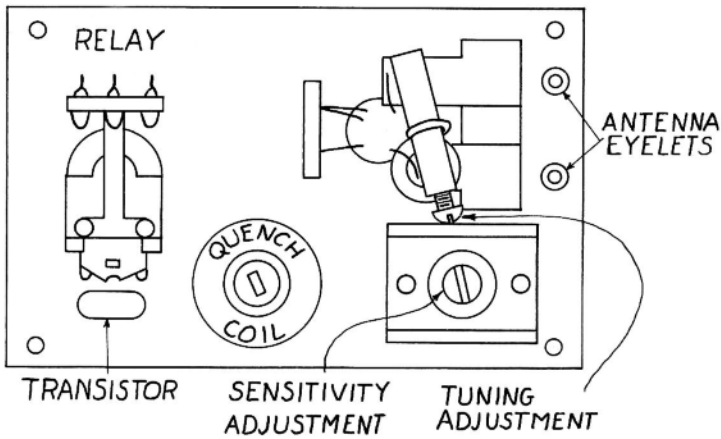

FIG. 1
- 6.1 After the previous complete factory testing and tuning of your set, only one simple adjustment need be made or at least checked for you to obtain perfect operation. This is the setting of the trimmer condenser attached directly to the base (Sensitivity adjustment Figure 1). Turning in clockwise reduces tube idle and turning out raises current flow. Set the adjusting screw to where the meter in Jack #1 (Fig. 4) reading tube current only shows 0.15 to 0.3 M.A. (Fig. 5A). The higher value gives better receiver range but too high a setting will cause the relay idle current to increase with no transmitter signal. (Fig. 5B). The relay current should rise only with a signal from the transmitter. The current change through the relay should be from 0 to 4 M.A. Set the trimmer with some factor of safety on the 0 relay idle. This adjustment should be made before each day of flying at the very least. After some experience adjusting the sensitivity control with a meter in the circuits you may want to make this adjustment without using a meter. Simply turn out the control until the relay and escapement pull in. Then turn in until the relay and escapement release - plus a fraction of a turn for safety. Always set the sensitivity control (Fig. 1) without a signal being sent from the transmitter.
- 6.2 Only a slight correction in the tuning or frequency adjustment (Fig. 1) will ever need to be made. This can be adjusted with the transmitter sending a signal with the antenna removed. Set tuning screw for best rise in receiver tube plate current (Jack #1, Fig. 4), and for greatest distance between transmitter and receiver. The quench coil core is set at the factory at its most satisfactory setting and should not be readjusted.
7.2 The values of relay pull-in and drop-out can be easily checked if you feel it necessary by wiring a 100,000 ohm potentiometer or volume control in series with the meter in Jack #2. (Fig. 4). Either send a signal from the transmitter or turn out sensitivity control (Fig. 1) until relay current increases. Then turn potentiometer shaft to insert resistance which decreases current and the value may be observed at which the escapement operates - i.e., relay contacts open and close.